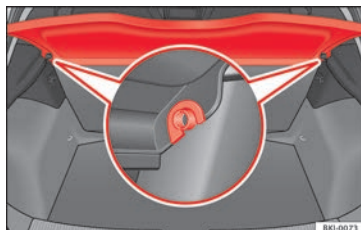

Fig. 141 In the luggage compartment: removing and installing the rear shelf.
- Remove the shelf from the side supports » **Fig. 141** pulling it up and out.
- Insert the rear shelf horizontally so that it coincides with the “plate” on the axis of the supports » **Fig. 141** and press down until it clicks into place.